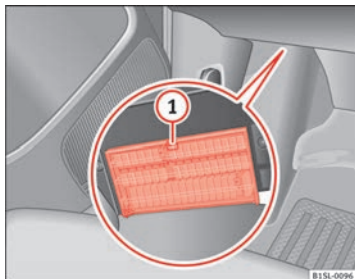

Fig. 147 Below the driver side dash panel: fuse box cover
- *Opening*: press the unlock button ⇒ Fig. 147 ① until it is possible to open the cover.
- *Closing*: fold the cover up in the opposite direction to the arrow until it clicks into the locking lever ①.